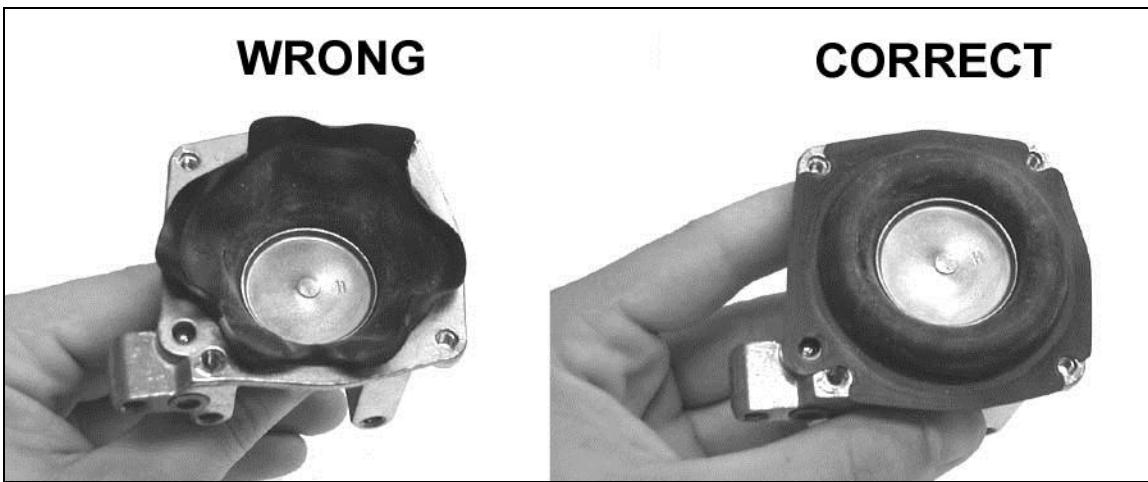

Figure 19
**TIP:** To make reassembling the diaphragm easier, push the diaphragm arm into the housing and form the diaphragm into a "mushroom" shape (Figure 19). Then position the diaphragm over the bolt holes and vacuum port. Hold the diaphragm in that position with your fingers while inserting the spring, cover, and bolts to avoid disturbing the position of the diaphragm.